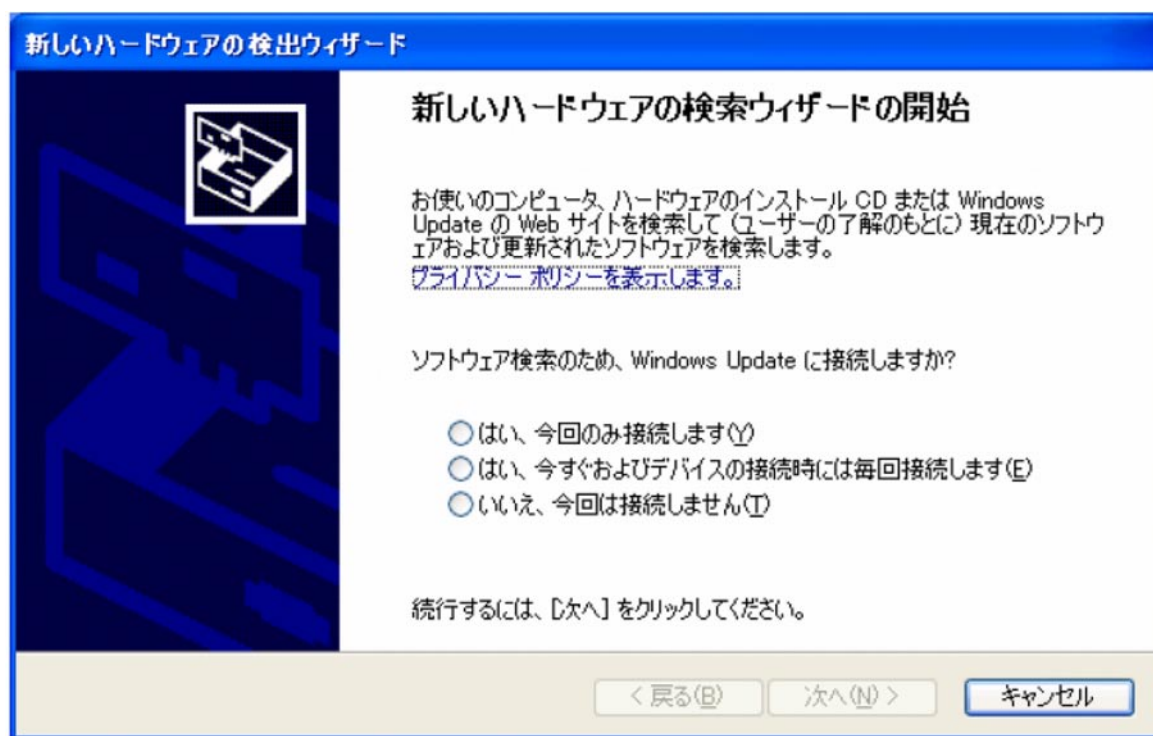

Fig. 1
- (2) Connect ICD3 USB cable to Personal computer. Do not connect to lamp driver
- (3) If downloading "new hardware" is requested, follow this instruction. (Fig. 1 in Japanese)